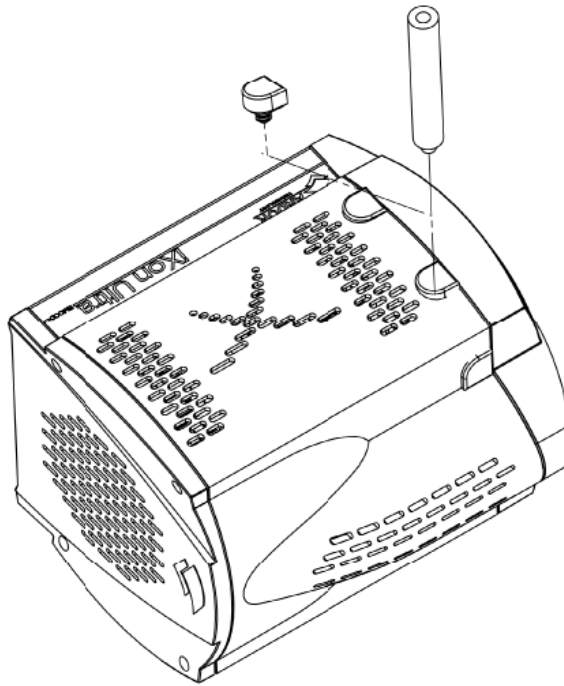

Figure 9: Attaching the Mounting Posts
1. Carefully remove the black grommet(s) as shown in Figure 9.